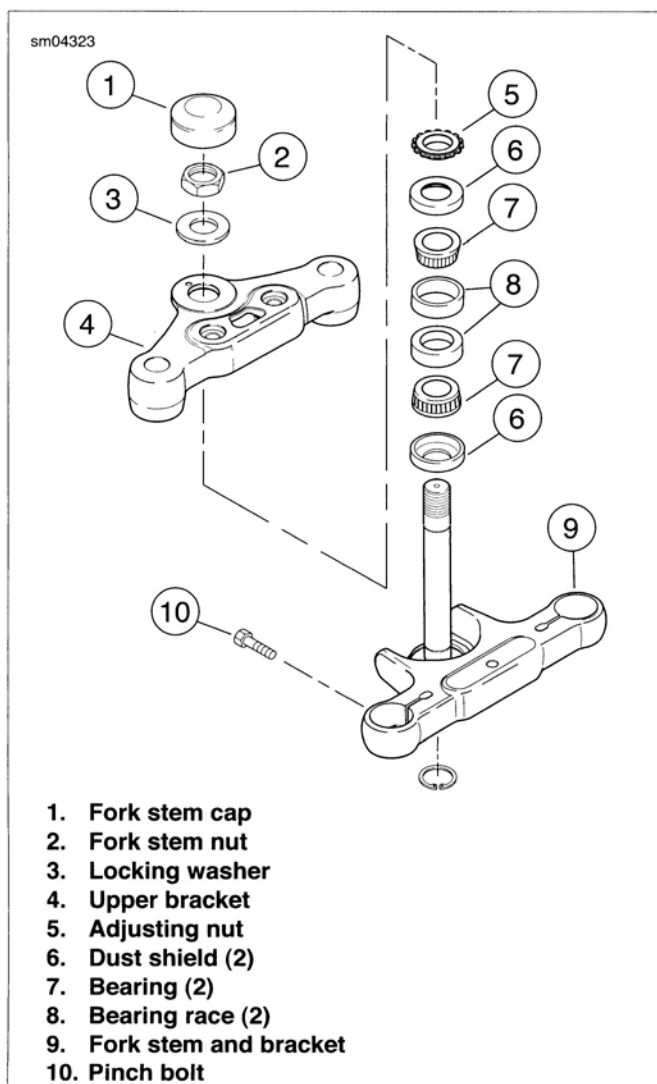

Figure 2-80. Steering Head: FXCWC
3. See Figure 2-80. Remove the brake hose bracket from the bottom of the fork stem and bracket (9).
4. Remove the fork stem cap (1). Remove the fork stem nut (2) with the handlebar and upper bracket (4) as an assembly.
5. Remove the adjusting nut (5) and pull the fork stem and bracket (9) out of the steering head.
6. Remove the upper dust shield (6) and bearings (7) from steering head.
1. See Figure 2-80. Insert the fork stem bracket assembly (9) (with lower dust shield and bearing) into the frame steering head and install the upper bearing (7) and dust shield (6). Secure with the adjusting nut (5).
2. Install the upper bracket (4), a **new** locking washer (3), and fork stem nut (2). Be sure pin on locking washer is engaged in upper bracket hole.